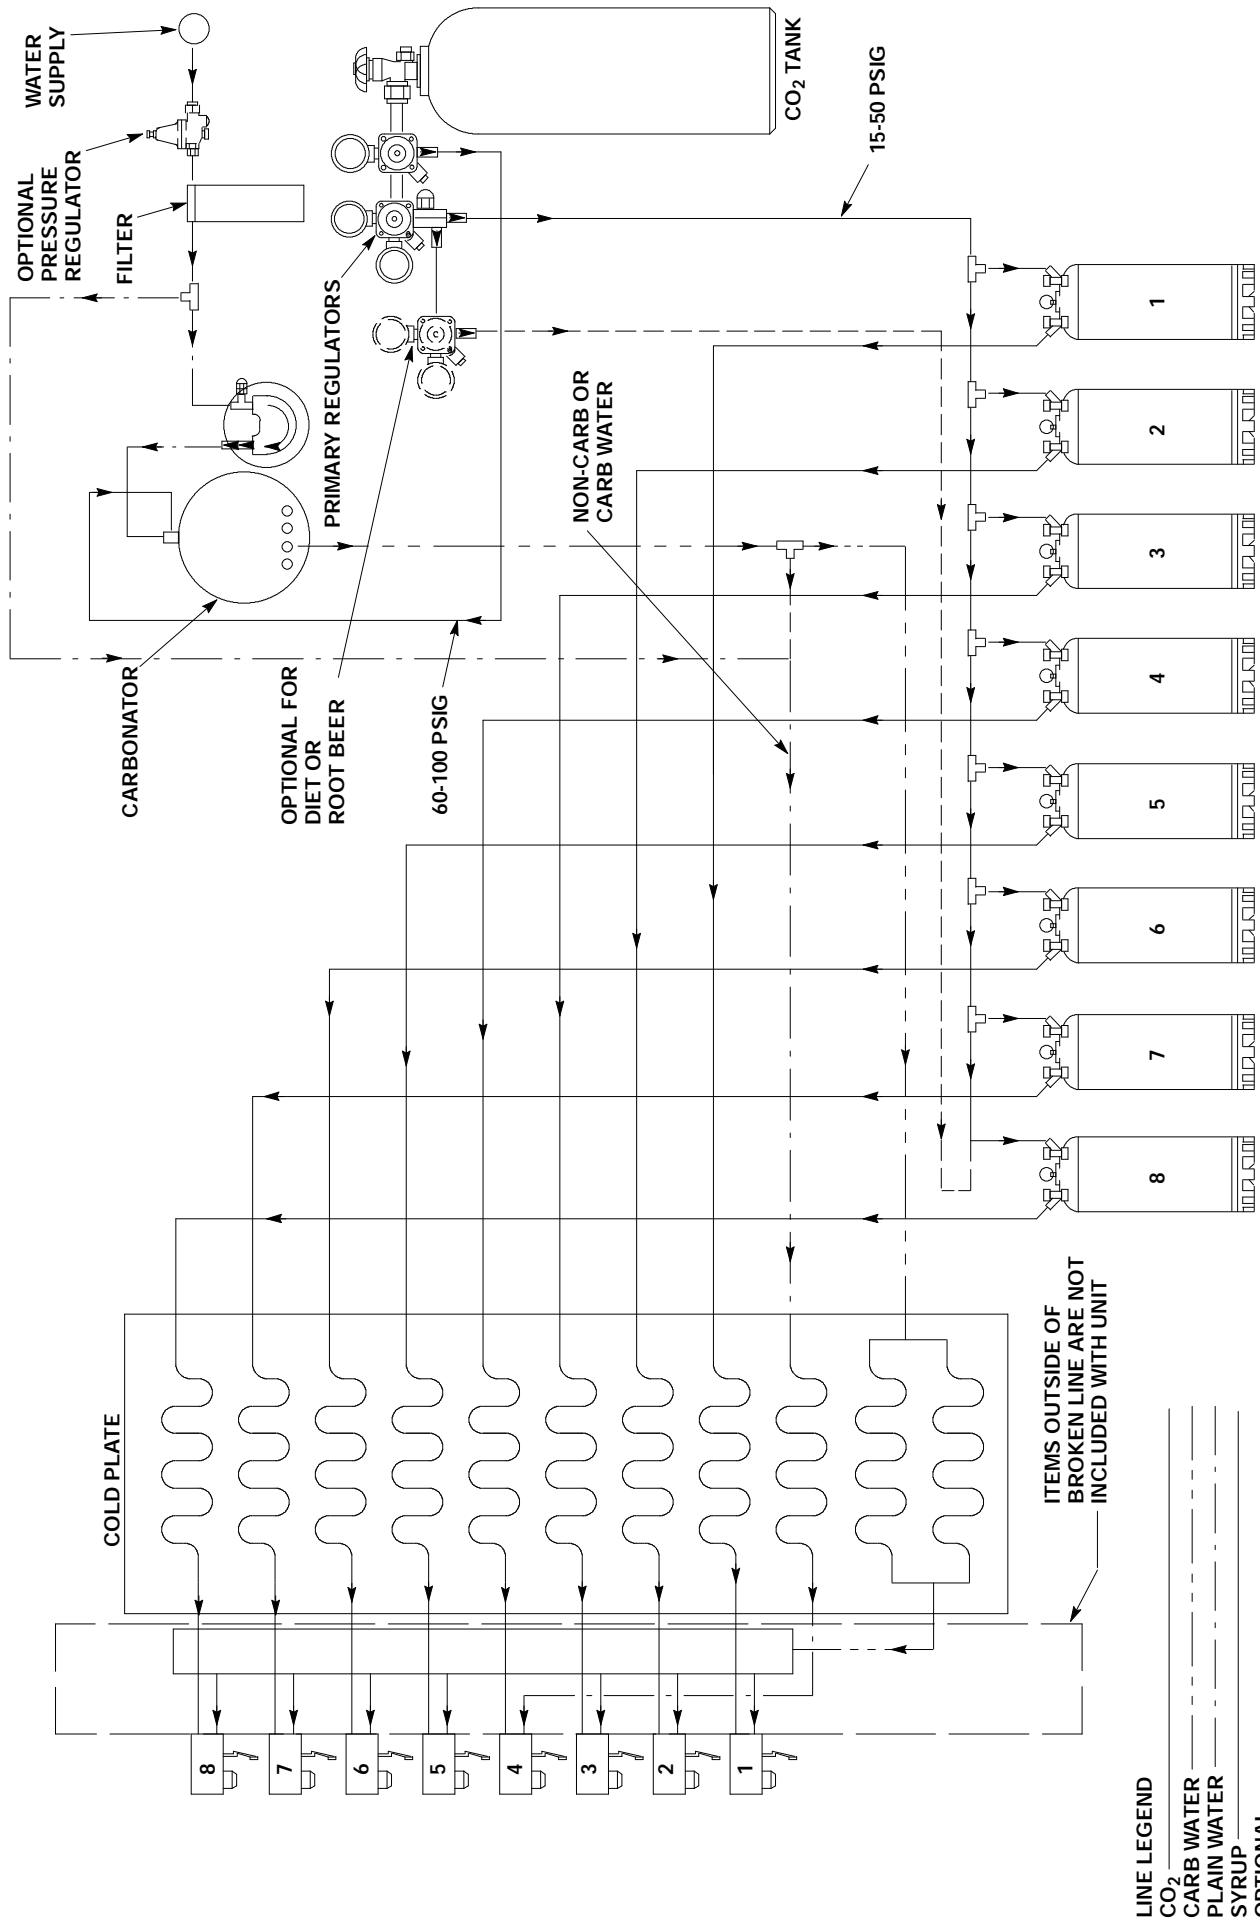
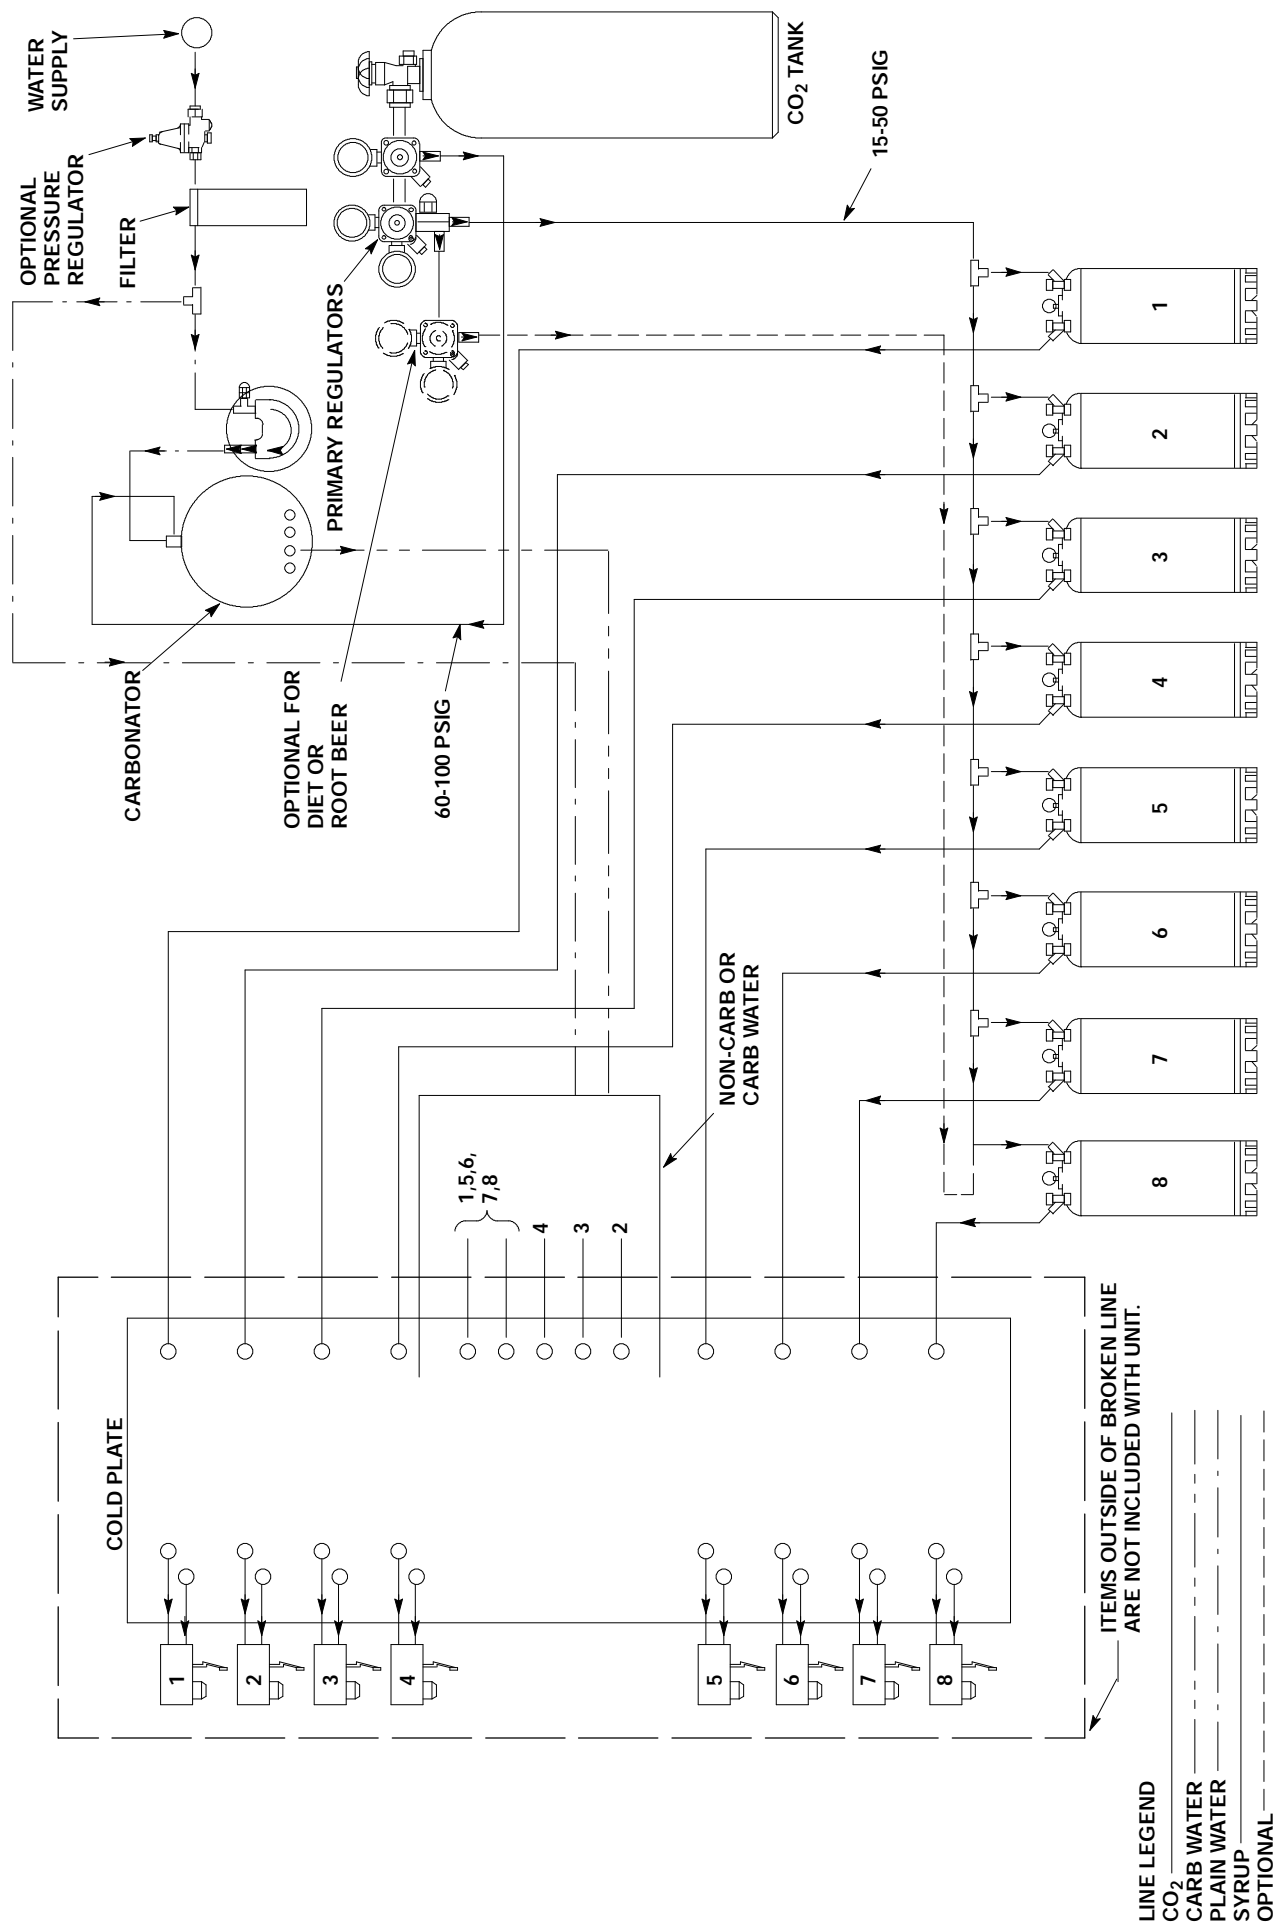

FIGURE 5. BEVERAGE SYSTEM SCHEMATIC B MODELS
FIGURE 6. BEVERAGE SYSTEM SCHEMATIC -BC MODELS
4. Connect the beverage system product lines as indicated in Figure 5 ("B" units) and Figure 6 ("BC" units). This work should be done by a qualified service person. Note that the hoses are marked with numbers (1 through 8) for syrup connection and "CW" for carbonated water connection.